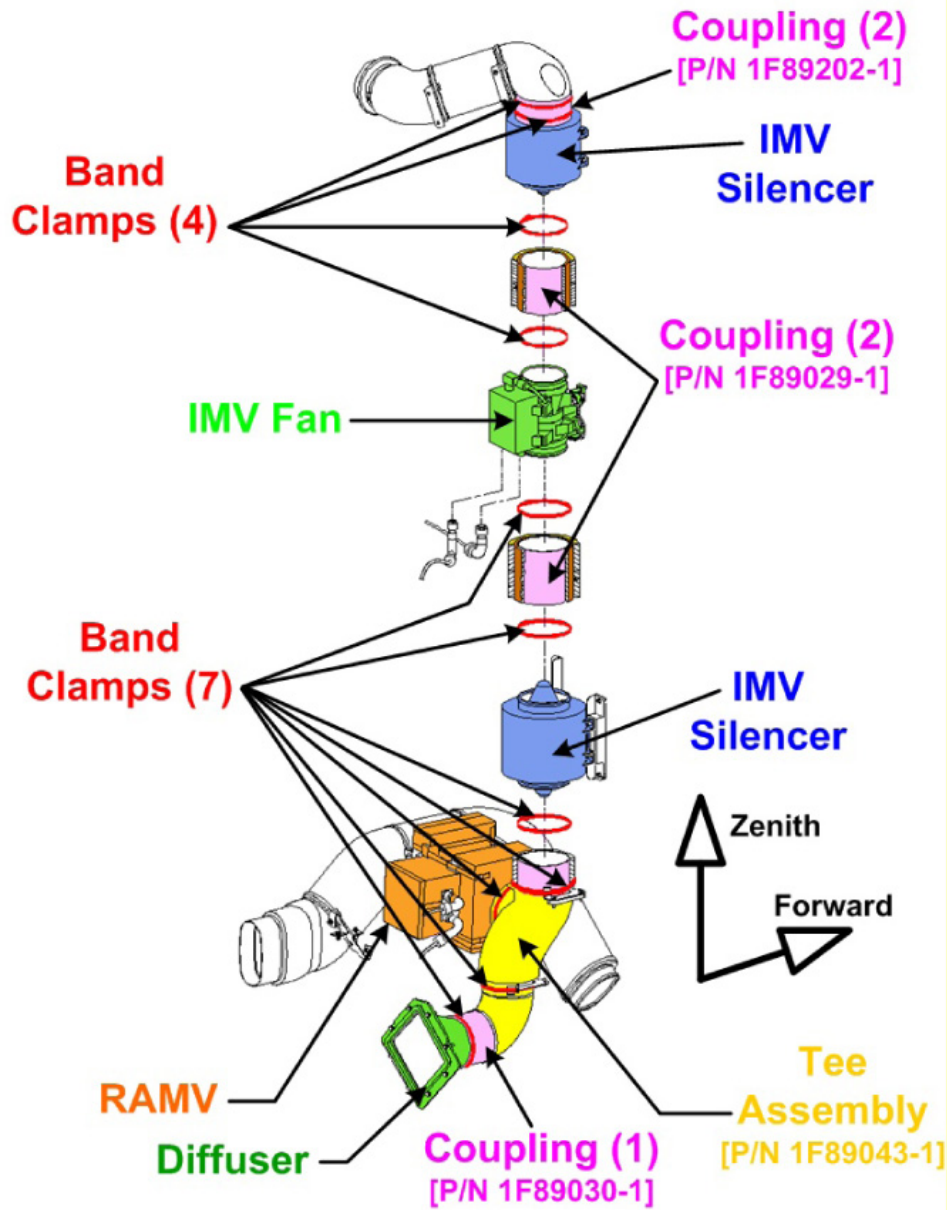

Figure 4. Node 1 Port Forward IMV ducting Band Clamp Locations.
- Refer to Figure 4.
Refer to Figure 4.